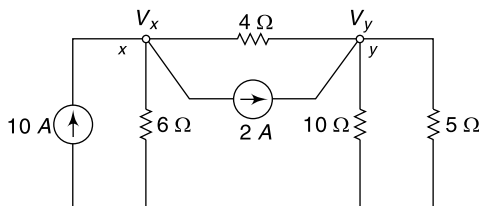

Fig. 4.38 Circuit of Ex. 4.24
4.24 Find the node voltages (V_x) and (V_y) using nodal analysis (Fig. 4.38).